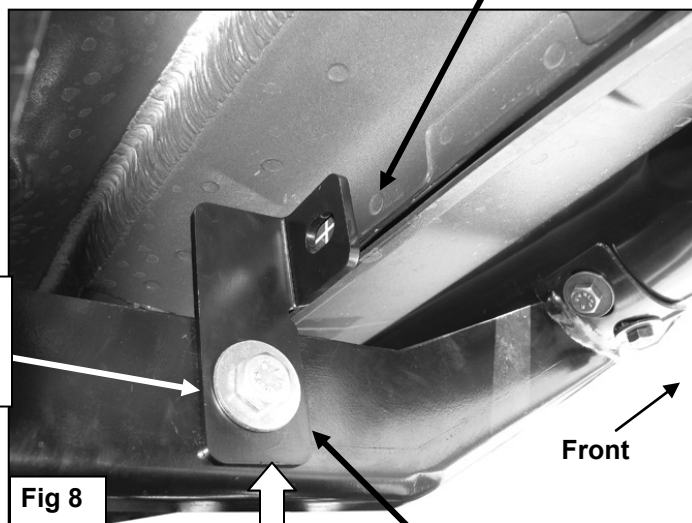

Fig 8
9. Line up the Front Support Bracket with the back of the pinch weld, **(Figure 8)**. Push the Support Bracket up as high as possible to where the pinch weld meets the floor panel. Snug but do not fully tighten hardware.
IMPORTANT: If the Support Bracket is too low and close to the edge of the pinch weld, loosen the Support Bracket and front Bracket hardware. Push the Bracket and Support Bracket up a little into position against the floor panel and away from the edge of the pinch weld, **(Figure 8)**. Level and adjust the Sidebar properly and tighten all hardware.
11. Use the hole in the Support Bracket as a guide to mark the drilling location on the back of the pinch weld, **(Figure 8)**. Once you have marked the location, temporarily remove the Sidebar, the front Mounting Bracket and Support Bracket. Remove the plastic clips securing the plastic rocker cover to the rocker panel.